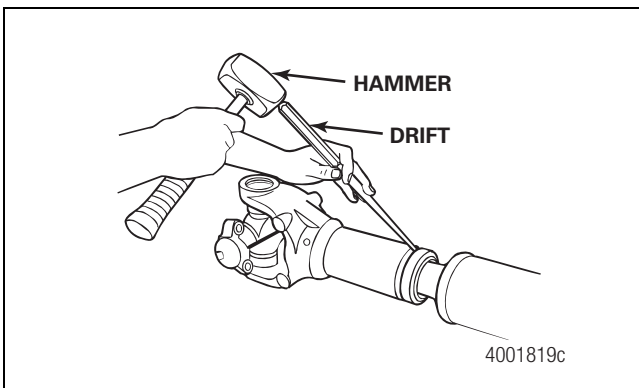

Figure 4.11
1. Use a brass or copper hammer and a drift to tap the shroud off the slip seal. Figure 4.11.